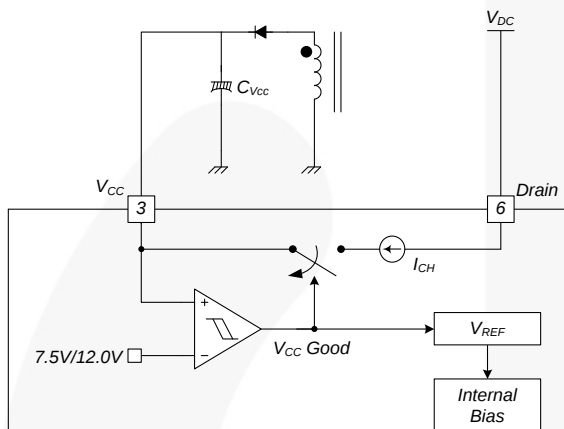

Figure 17. Startup Block
**1. Startup:** At startup, an internal high-voltage current source supplies the internal bias and charges the external capacitor ( $C_{VCC}$ ) connected to the  $V_{CC}$  pin, as illustrated in Figure 17. When  $V_{CC}$  reaches 12V, the FSL138MRT begins switching and the internal high-voltage current source is disabled. Normal switching operation continues and the power is supplied from the auxiliary transformer winding unless  $V_{CC}$  goes below the stop voltage of 7.5V.